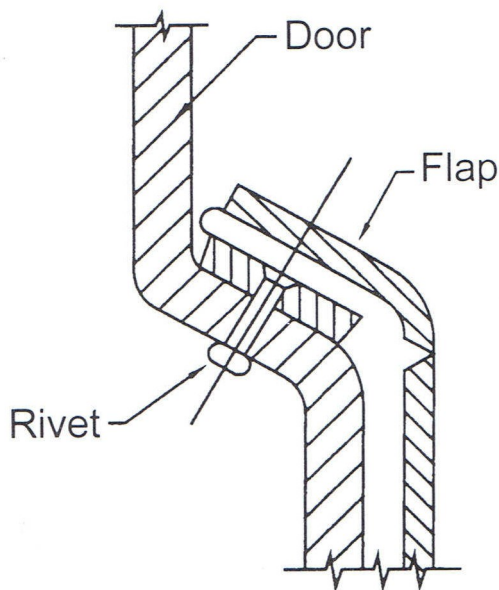

FIGURE 2
4. Holding the flap in an 'open' position, rivet the flange into place. The flap should then fold downwards and snap shut into the door at the bottom. See Figure 2, showing cross section of door and flap fixing.